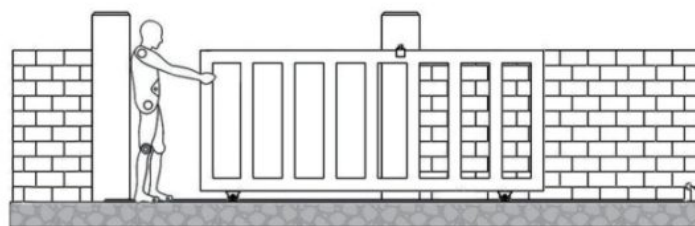

Fig 5
If your gate needs to open from the other direction (to the left, refer to Fig 4) your motor needs to be mounted on the left-hand side as shown, you will need to switch 2 wires of motor (Fig 14) at random. And swap over two magnets positions (Fig 5).
- Be sure that the opener is installed in a level and paralleled position and is properly secured and the gate can be moved smoothly push or pull by hand before installing motor(Fig 5).